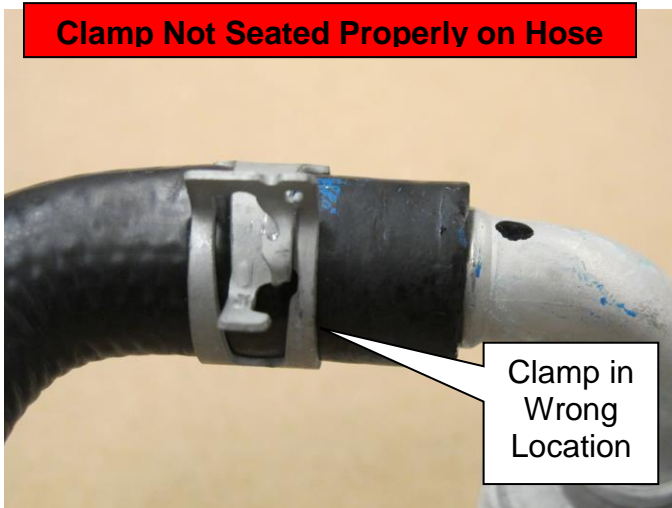

Figure 14
- Clamp not seated properly on hose (Too close to barb lip) (Figure 14).